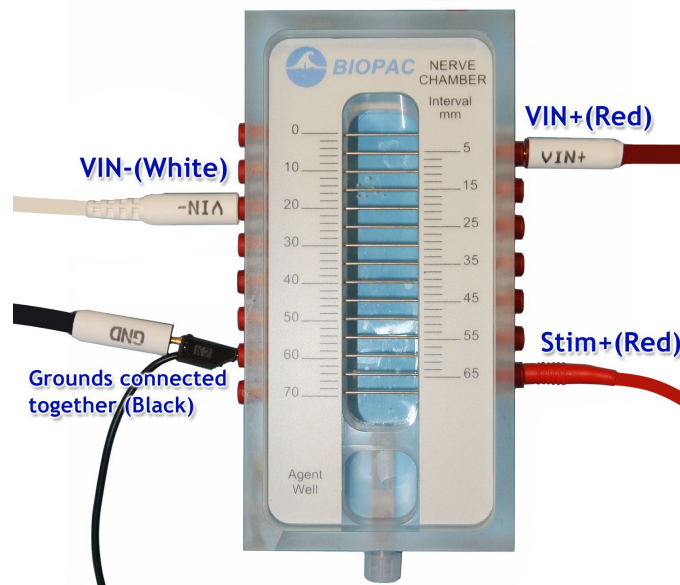

Figure 12
Lead placement will vary due to nerve length or as required for a specific recording procedure. The leads need only follow the general order shown in Figure 12, which is as follows:
4. Move the recording cable's VIN+ lead such that it is as far away from Stim+ yet clearly contacting the nerve. Move the VIN- lead so as to retain the ordering shown in Figure 12.